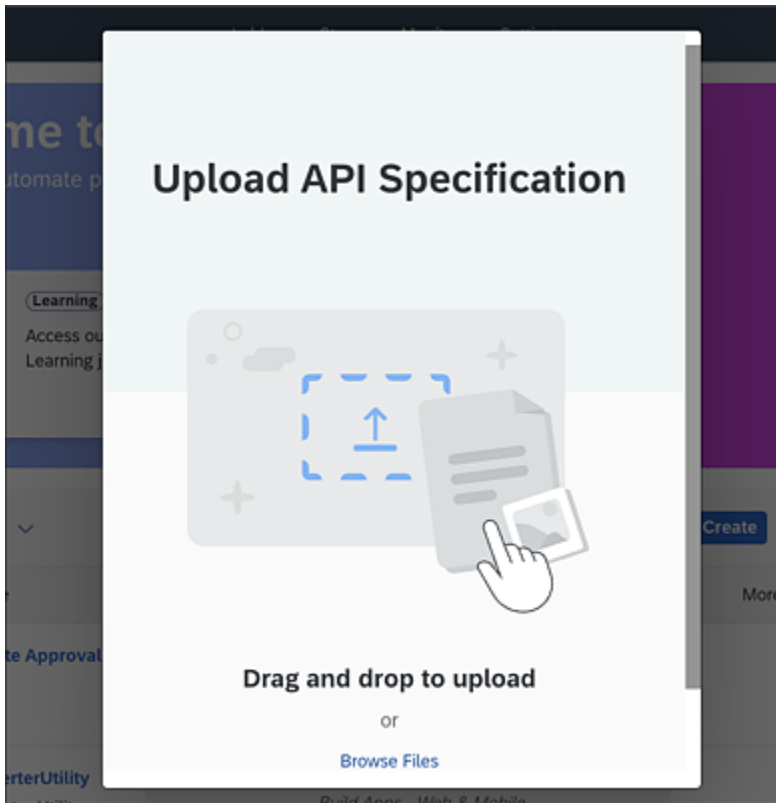

Figure 18.61 Uploading an API Specification
1. In the **Action** menu, choose **Upload API Specification**. Here you can either drag and drop your specification file or browse the location and add it (see Figure 18.61).